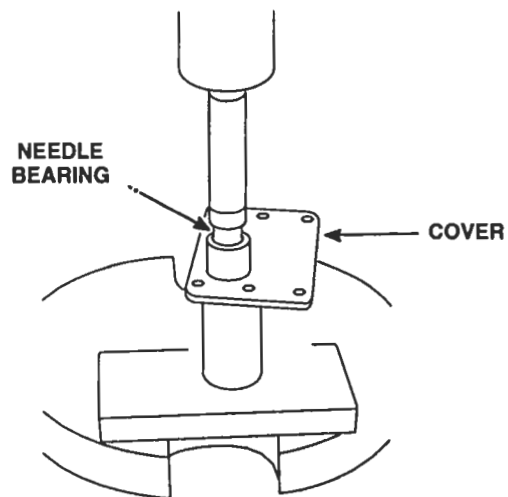

Figure 10. Installing Needle Bearings on Governor Covers
1. If the needle bearings were removed from the governor cover, place the governor cover on the bed of an arbor press with the inner face of the cover down. Start the upper bearing straight into the bearing bore of the cover with the number on the bearing up. Insert the bearing installer J 21068 in the bearing and press the bearing in until the shoulder on the tool contacts the cover (Figure 10.)